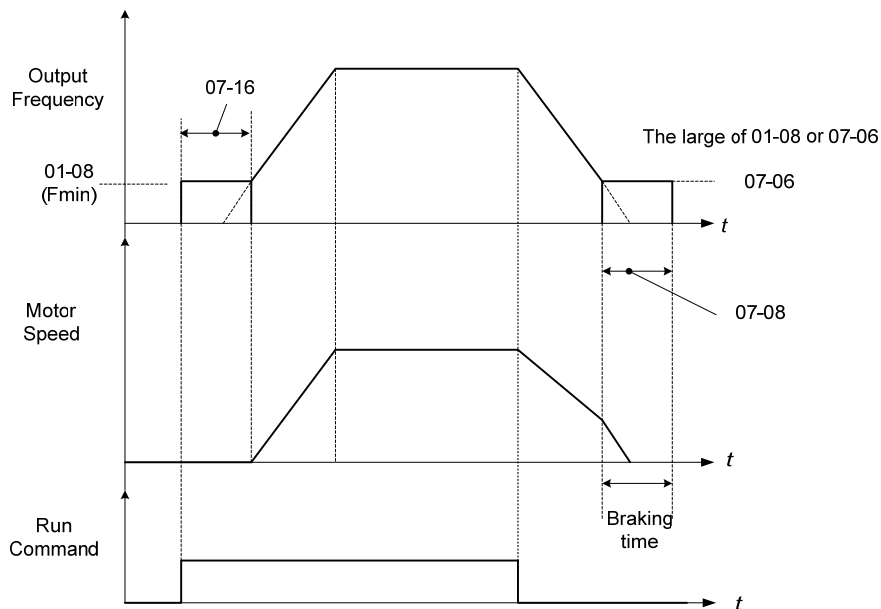

Figure 4.3.57 DC brake operation
- . DC braking current level for either start or stop will be set by parameter 07-07. Set the DC braking current (07-07) as a part of the output current proportion that the inverter can withstand (the output current that the inverter can withstand is set to 100%). The DC braking current parameter (07-07) can not be used together with sensor vector control (SV), and can not be set.
- . For DC braking operation, please refer to Figure 4.3.57.
- . By setting any one of terminals (03-00 to 07) to 33, it is possible to control the DC braking operation by multifunction digital input. As to the DC braking time figure, please refer to Figure 4.3.57.